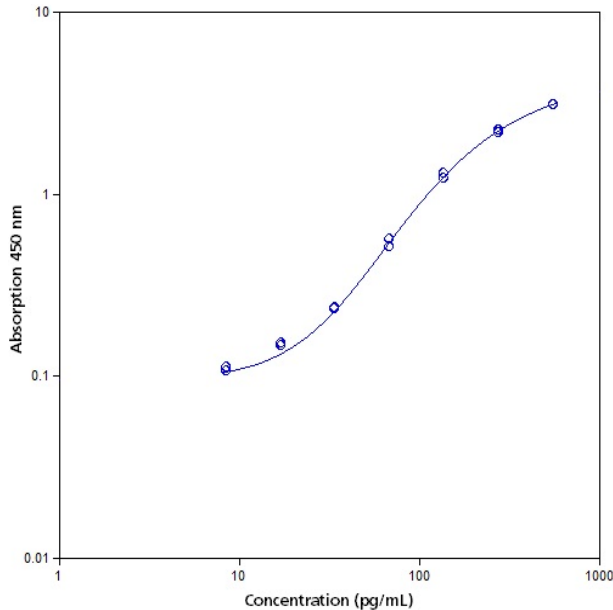

Fig. 9 Representative standard curve for human C-Peptide ELISA. Human C-Peptide was diluted in serial 2-fold steps in Sample Diluent.
- A representative standard curve is shown in Figure 9.